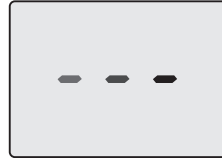
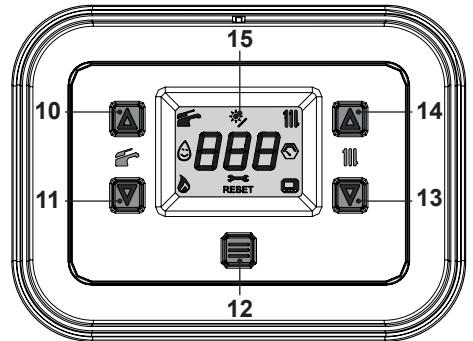

Fig. 7.3
Fig. 7.4
- Electrically power the boiler by switching on the double pole isolation switch. The LCD will display, the  symbol (the dashes light up in sequence to simulate a scrolling motion) (Fig. 7.3).
- Press the 12 key for 5 seconds until both  and  symbols appear on the display (Fig. 7.4).
- Enter "programming mode" by pressing the 11 and 13 keys simultaneously for 5 seconds (Fig. 7.4) until **HiS** (Boiler History) appears on the LCD display (Fig. 7.6).
- press the 11 and 13 keys simultaneously for 5 seconds (Fig. 7.4) (return to previous level).
- Switch off the boiler by pressing the 12 (Fig. 7.4) key for 5 seconds until the  symbol appears on the LCD display (Fig. 7.3).